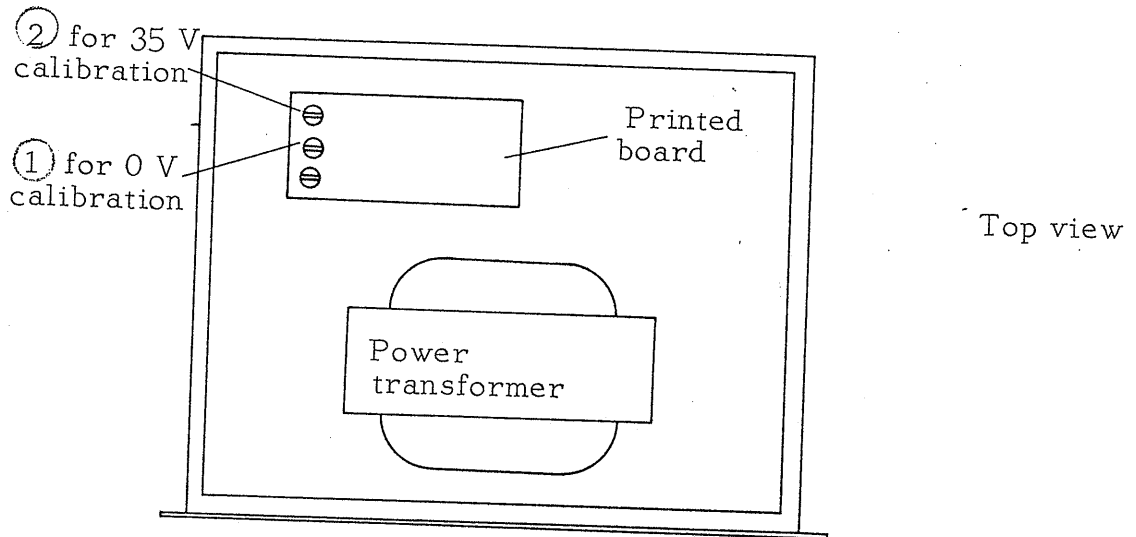

Fig. 7
Set the output voltage fine control to the middle, turn the output voltage selector full counterclockwise, and then adjust semi-fixed resistor R_{20} (① in Fig. 7) located on the printed board so that the output voltage is approximately 0 V.
semi-fixed resistor R_{19} (2) in Fig. 7) located on the printed board so that the output voltage is 35 V.